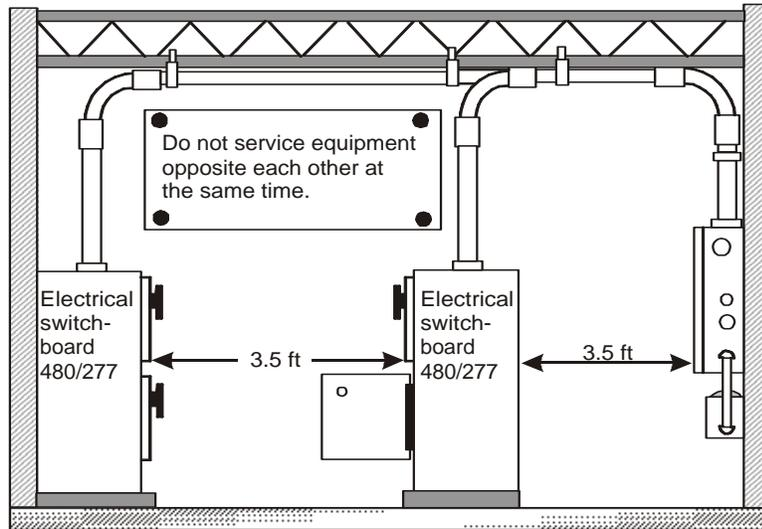

Figure 12-2.—Access and working space requirements around enclosures and equipment.
- a. Figure 12-2 and table 12-4 provide access and working space distances around electrical equipment and enclosures, e.g., panelboards, motor controls, disconnects, etc., to permit ready and safe operation and maintenance. Keep working space clear at all times.